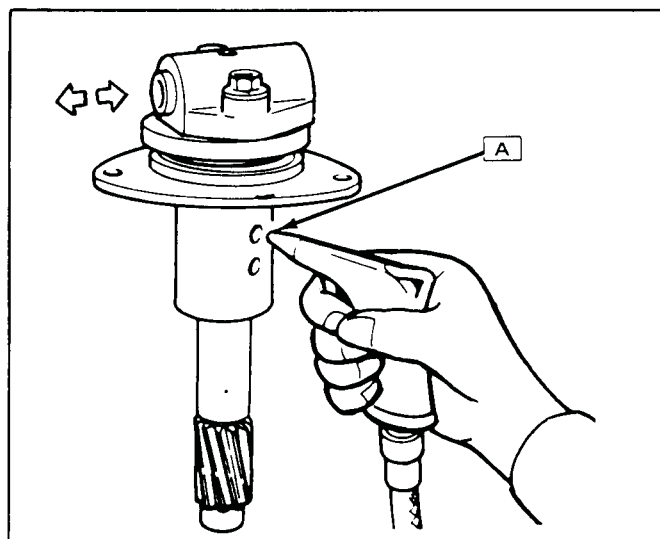

Figure 7A-68 Checking Valve Operation
4. Remove the lock pin used to retain the cross pin (Figure 7A-78). Remove the cross pin from the differential case.